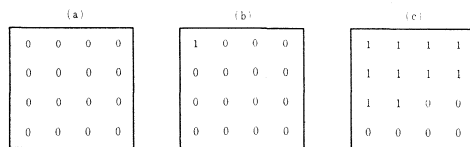

Fig. 1 Addressing method for 16 bits memory in the Marching pattern
- (1) Write "0" for all bits Fig. 1 (a)
- (2) Read "0" of 0th address and check that the read data is "0". Hereafter, the meaning of "Read" is "checking and judging the data".
- (3) Write "1" in the 0th address Fig. 1 (b)
- (4) Read "0" of 1st address
- (5) Write "1" in 1st address
- (6) Read "0" of nth address
- (7) Write "1" in nth address Fig. 1 (c)
- (8) Repeat above procedures (6) and (7) up to the last. Finally, all data will become "1".
- (9) Since all data are "1"s in this condition, replace "0" and "1" after procedure (2) and repeat once more up to procedure (8).